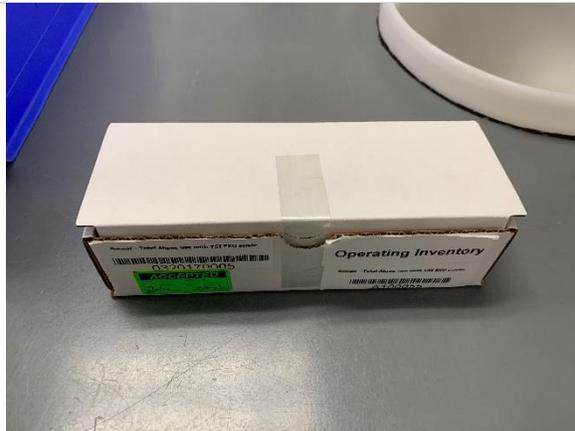

Figure 135. Sensor packaging/cardboard box
**STEP 1** | Open the sensor probe box (**Figure 135**) and remove the insert containing the sensor probe and asset tag.